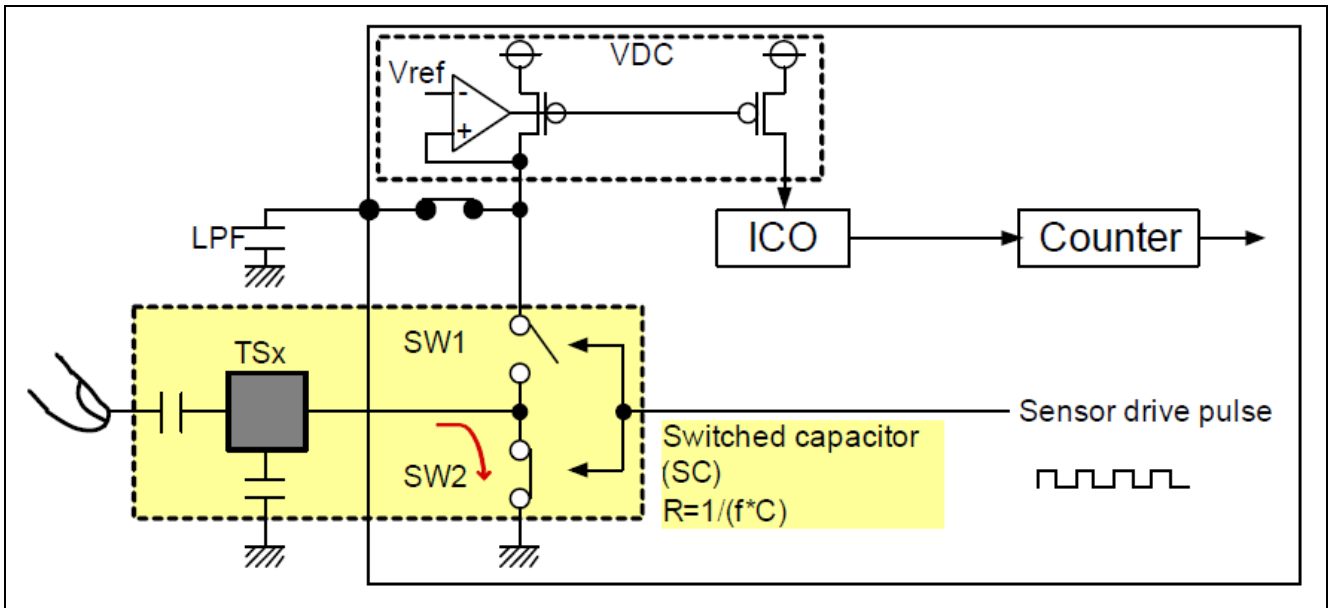

Figure 2-3 Discharging Operation
- (2) The charged capacitance is discharged by turning SW1 off and SW2 on (Figure 2-3).
Current flows through the switched capacitor filter by switching between (1) charging and (2) discharging at early timing. At this time, if a finger is in close proximity, the electrostatic capacitance changes, which varies the flowing current. A clock is generated by supplying the control current, which is proportional to the amount of current flowing through the switched capacitor filter, from the voltage down converter (VDC) circuit that generates TSCAP power supply to the ICO. The counter measures the clock frequency that varies depending on whether a finger is in close proximity. The software uses the read counter value to determine contact with a finger (Figure 2-3).